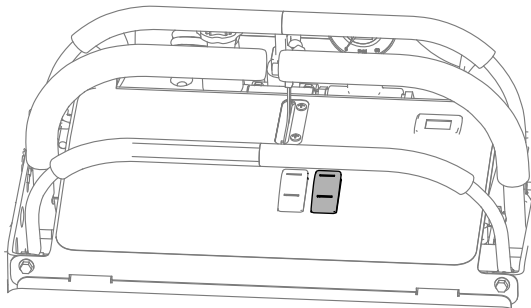

Figure 18
2. Turn the sprayer pump on (Figure 18).
2. Switch the sprayer pump on (Figure 18).